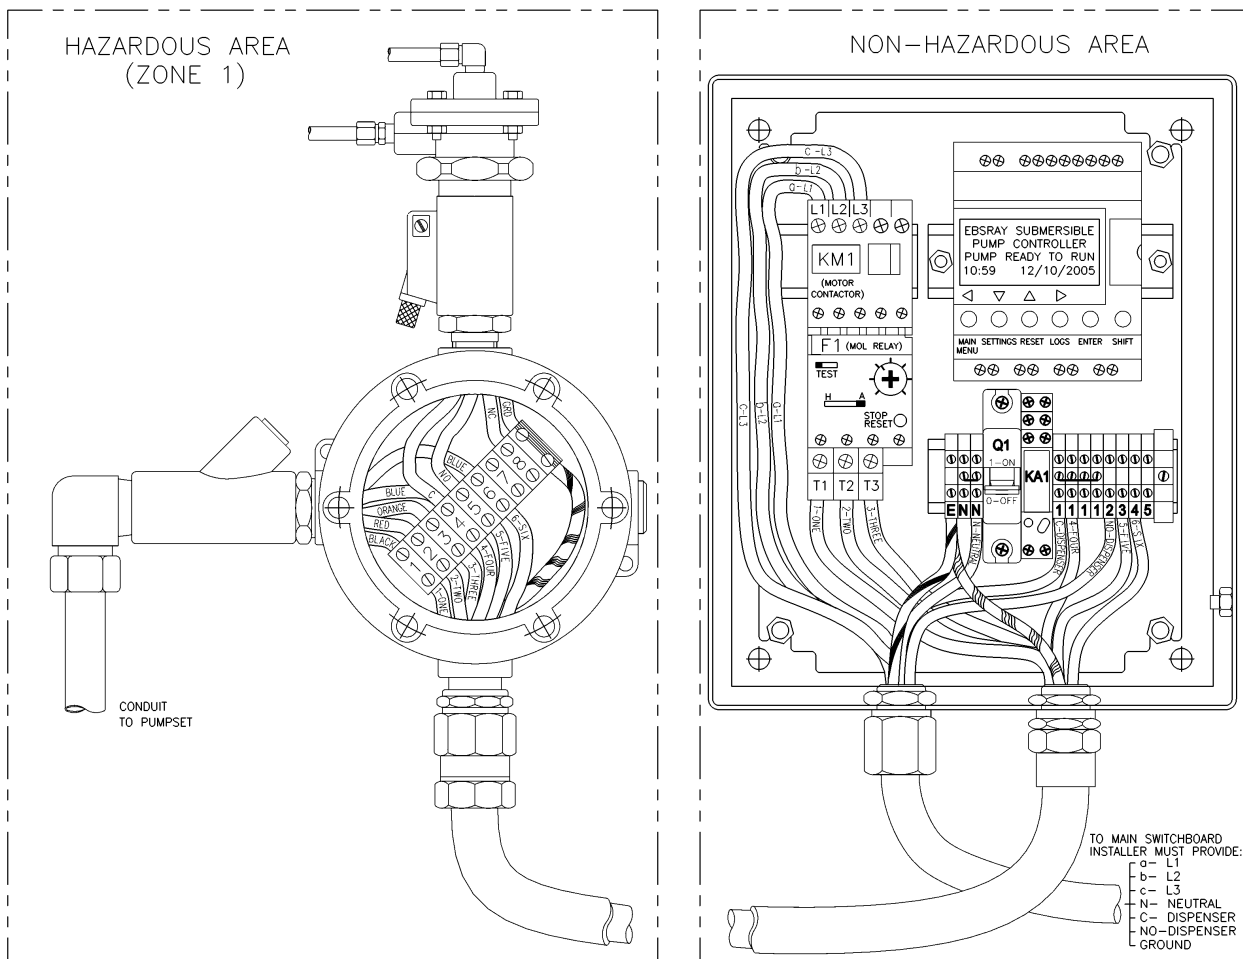

Figure 9
Typical electrical connections are as shown in the accompanying diagrams Figure 9 and Appendix C. Items provided by EBSRAY are suitable for use in the specified intended areas. Ensure that any substitute equipment supplied by others is certified and/or correct for the intended usage and location. Following is a brief description of the electrical wiring installation. Installer must provide additional items as shown in Appendix C – Typical Wiring Schematic and Connection Diagram
4. Connect leads from cable to terminal strip in Junction Box (see Figure 9) then refit Junction Box cover and gasket.
6. The wiring from the Junction Box is connected to the Pump Controller as follows: Cores One (1), Two (2) and (3) are connected to terminals T1, T2 and T3 respectively on the motor overload relay. Cores Four (4), Five (5) and Six (6) connect to Terminals One (1), Three (3) and Four (4) respectively on the terminal strip in the Pump Controller (Any extra unused cores should be capped off). The ground core is connected to the Earth Terminal.